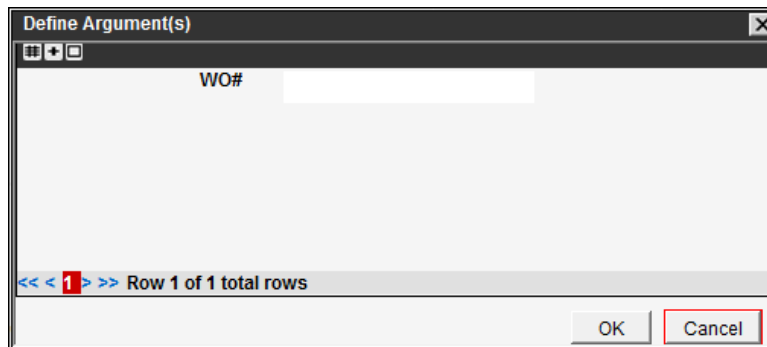

Figure 2-14. Jasper Report - Define Argument(s) Dialog Box Prompt Example
2. When prompted to Define Argument(s) in a dialog box (Figure 2-14), select or enter the necessary value(s), per the report's setup.
3. Select **OK** in the dialog box (Figure 2-14) to view the Jasper report (Figure 2-15) in the type of window selected.